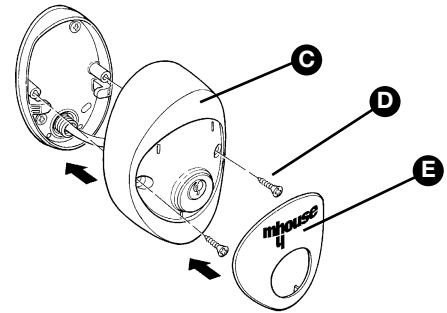

Figure 54
**9** Secure the body **[C]** using the two screws **[D]** and a Phillips screwdriver. Finally insert the glass **[E]**, pressing it gently to close it (Figure 54).